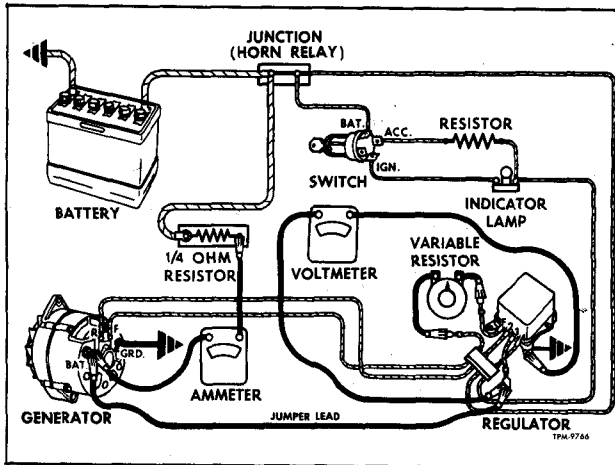
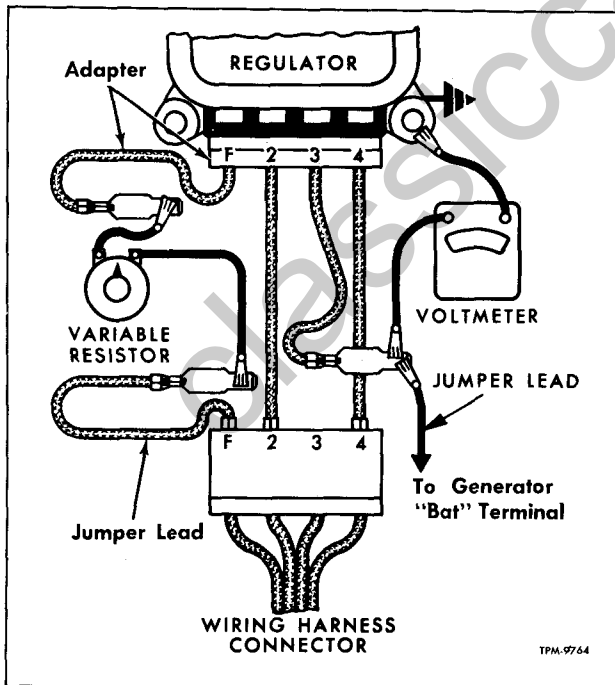

Figure 12—Connections for Testing Regulator Voltage Setting (Two-Unit Type Regulator)
Figure 13—Testing Voltage Setting (Two-Unit Regulator)
1. Refer to figure 12 which shows all test equipment connected into system. Figure 13 shows use of special adapter and jumper lead at regulator.
2. Connect an ammeter and a 1/4-ohm resistor with a rating of 25 watts or more in series in the circuit at the "BAT" terminal on the generator (fig. 12). In the event the battery is discharged, the 1/4-ohm resistor will limit the generator output to 10 amperes or less which is required, when checking and adjusting the voltage setting.
3. Install special adapter as shown in figure 12. Use a 25 ohm 25 watt variable resistor in series with the generator field windings at the regulator "F" terminal, and connect a jumper lead from the #3 adapter lead to the generator "BAT" terminal as shown. Connect a voltmeter from the #3 adapter lead to ground as shown. Turn the resistor to the closed or "no resistance" position.